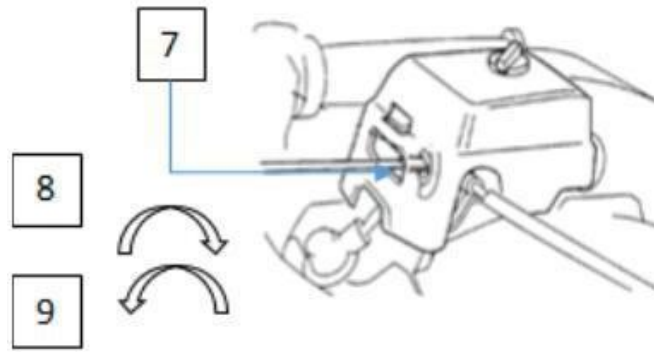

Fig. 6
- When restarting immediately after stopping the engine leave the choke in the open position(Fig.6).
5.5 Drilling. (Fig.6)